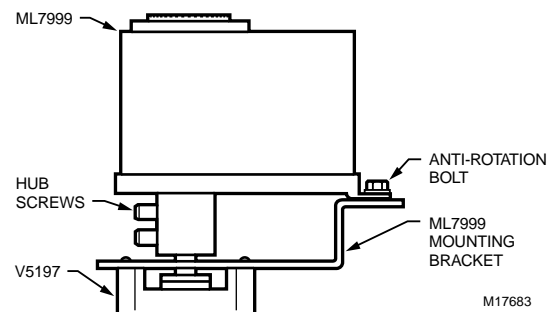

Fig. 12. Mounting the ML7999 Actuator on the V5197 Valve.
5. Tighten the hub setscrews against the shaft to a torque of 60 lb-in. See Fig. 12.